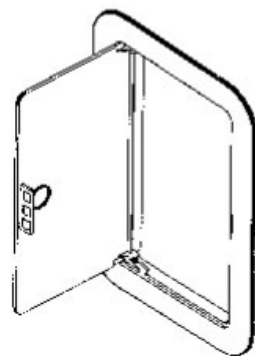

Fig.1
- To open the door, use a screw driver in the slot and lever up (fig. 1)